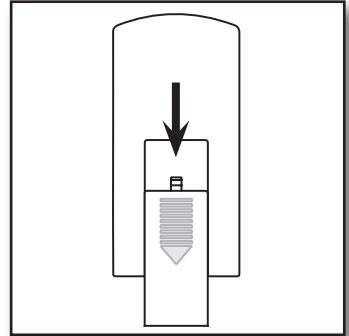

Figure 11.
1. Turn the Remote Control over and Remove the Battery Cover from the back by gently pressing down on the tab and sliding down on the tab. **Figure 11.**